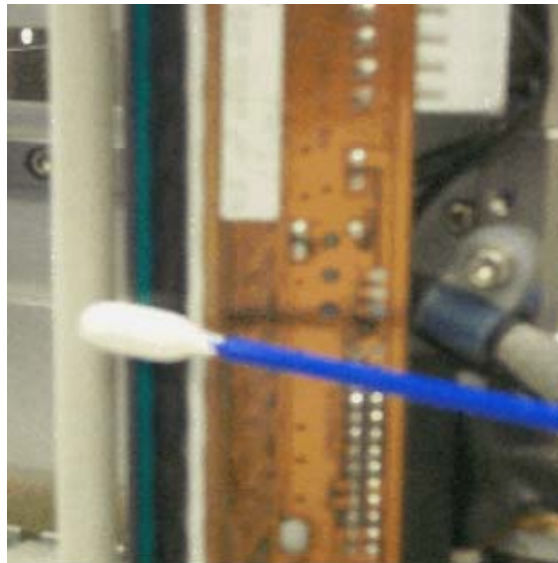

Figure 5-20: Printhead Cleaning
- 3 Clean the printhead pixel line (Figure 5-20 on page 5-15), the white cassette rollers and the peel roller gently, using the cleaning swabs provided with the printer.